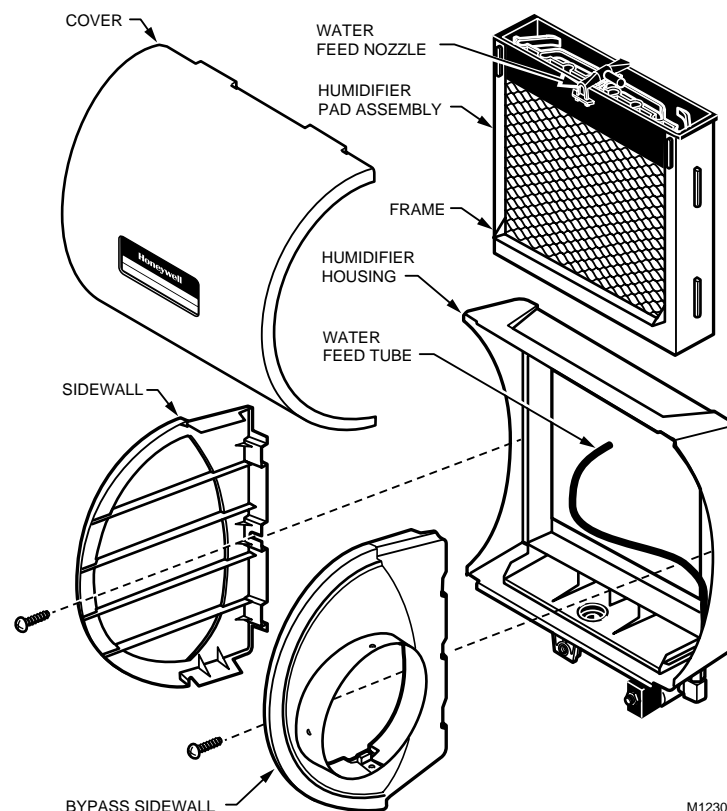

Fig. 2. Humidifier components.
4. Disassemble the humidifier; remove the cover and take out the humidifier pad assembly. See Fig. 2.